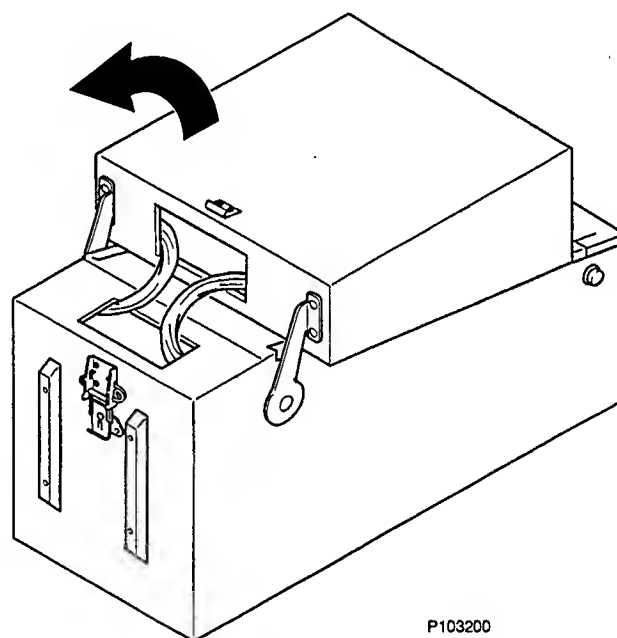

FIGURE 4: RAISING BACKBOX UPRIGHT
5) Raise the backbox to its upright position. Ensure that cables are not pinched (see Figure 4).